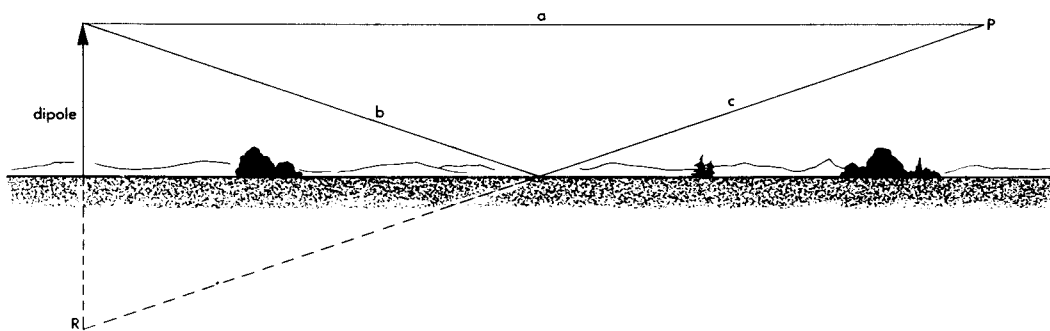
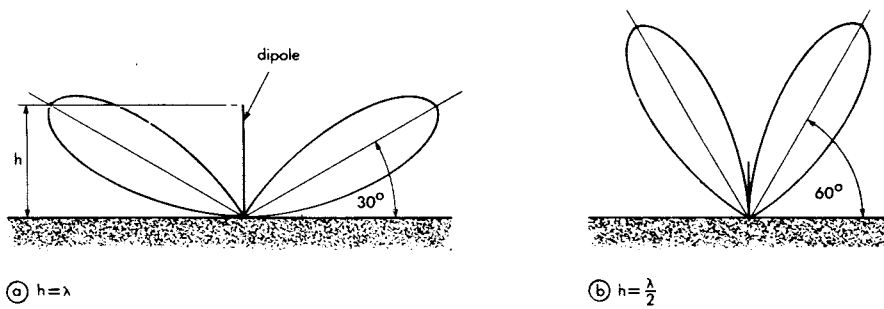

Fig 15.6 Earth reflections
Fig 15.7 Angle of propagation
- **Earth reflections.** When a dipole is supported above the earth, the earth acts as a reflector and reflects some of the radiation back into the atmosphere (Fig 15.6). The reflected radiation is in such a direction that it appears to radiate from a point vertically below the dipole and at a depth beneath the earth equal to the height of the dipole (point R in Fig 15.6). When the primary radiation meets the secondary radiation from the earth's surface (point P in Fig 15.6) they combine.
If the distances a and $(b + c)$ in Fig 15.6, differ by half a wavelength then at point P the radio waves will be *in anti-phase* and will cancel each other. If they are *in phase* at point P they will add and provide a strong signal. By plotting points P for a certain height (h) of the dipole above the ground—where the waves add, where they cancel, and at intermediate stages—we arrive at a polar diagram for the antenna at that height. The height of the dipole can be chosen so that the radiation is 'thrown' into space at any required angle, this angle being known as the *angle of propagation* (see Fig 15.7).
As discussed earlier, the angle at which the radiation is directed is known as the 'angle of propagation' and can be controlled by varying the height of the dipole above the earth (see Fig 15.7). When the ionosphere is used for radio communication, the signal effectively 'hops' from the transmitter to the receiver via the ionosphere. The smaller the angle of propagation the greater is the distance of the hop (sometimes referred to as 'skip distance').